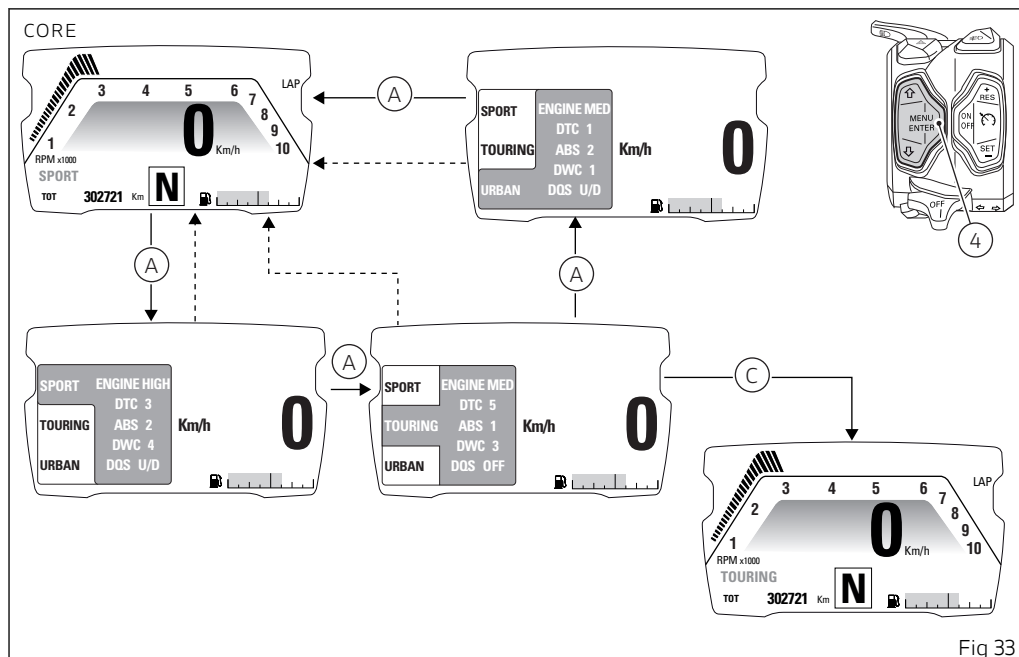

Fig 33
Any time the CONFIRM MENU button (4) is pressed, you highlight a riding mode and the associated parameters are displayed (A, Fig 33).
Once the desired riding mode (A, Fig 33) is highlighted, confirm the selection by holding down the CONFIRM MENU button (4) for 2 seconds: the new riding mode selection is stored and the standard screen (C, Fig 33) is displayed for the selected riding mode.